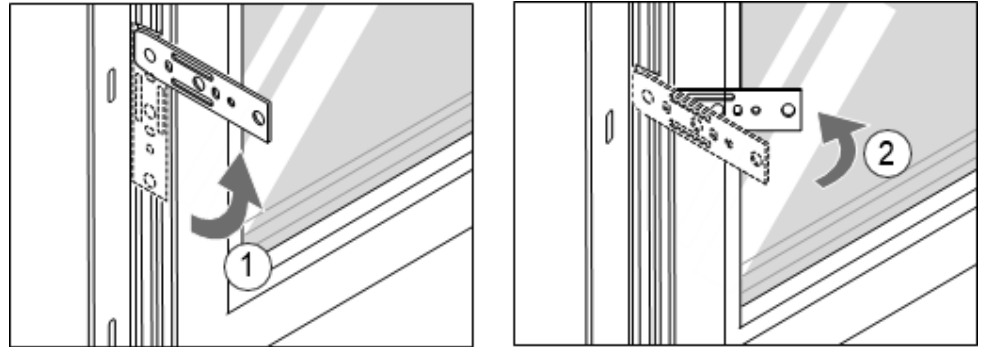

Figure 4-10. How to rotate and bend the strap anchors
- 1.2 If strap anchors are included, rotate them until they are at right angles to the frame. Bend the strap anchors inwards about 45°. See fig. 4-10. **Note:** Some frames do not have strap anchors.